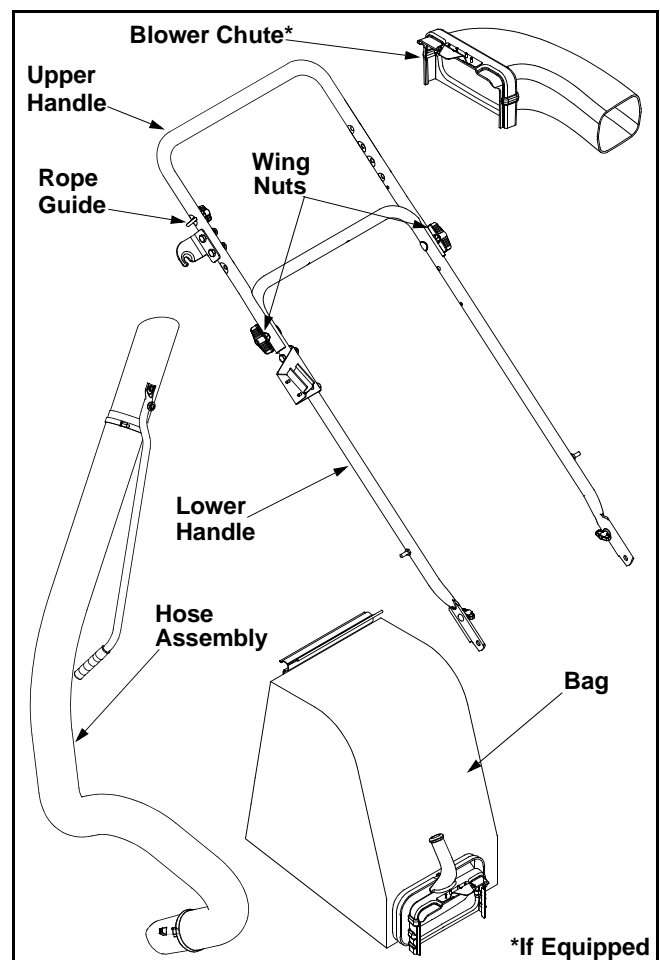

Figure 1
Loose Parts In Carton (See Figure 1)
- Secure the two handles by tightening the wing nuts (carriage bolts must be seated properly into the handle). See Figure 1.